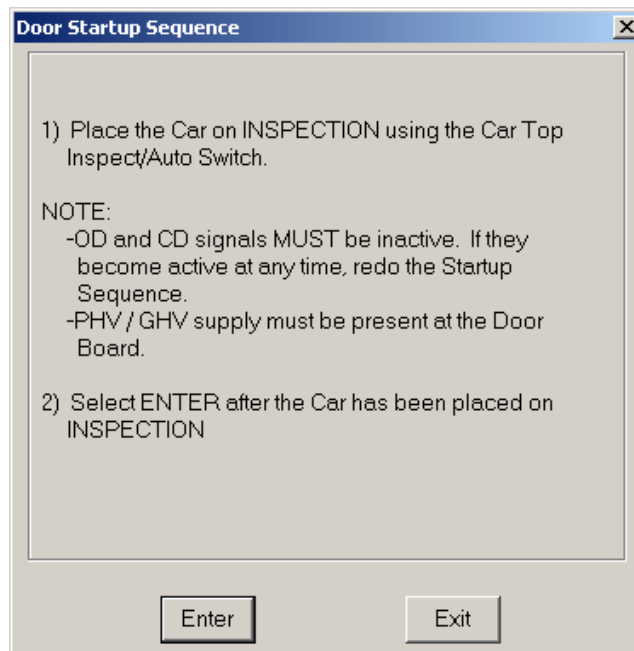

Figure 30
1. If the Door module is present and the user positions the cursor on the Startup Sequence pushbutton and clicks one time with the pointing device the Startup Sequence window will be displayed as shown in Figure 30. A prompt is displayed reminding the user that the care needs to be placed on Inspection along with making sure the signals Open Door (OD) and Close Door (CD) are disabled coming from the car controller to the Door Operator. The 1st window in the Door Startup Sequence also reminds the user that power for the Door Motor must be available through the PHV/GHV signals. To continue the Door Startup Sequence the user enables the ENTER function by positioning the cursor on the **ENTER** button and clicking once with the pointing device. If it is not desirable to continue, but desirable to exit the Door Startup Sequence then position the cursor on the **EXIT** button and click once with the pointing device.